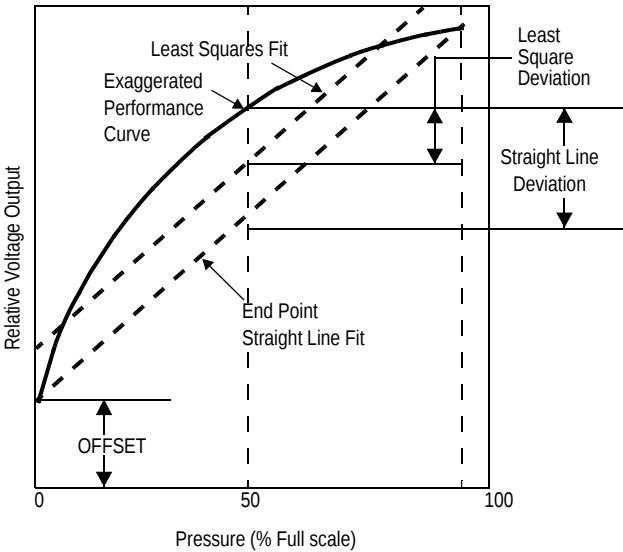

Figure 3. Linearity specification comparison
Linearity refers to how well a transducer's output follows the equation: $V_{OUT} = V_{OFF} + \text{sensitivity} \times P$ over the operating pressure range. There are two basic methods for calculating nonlinearity: (1) end point straight line fit (see Figure 3) or (2) a least squares best line fit. While a least squares fit gives the "best case" linearity error (lower numerical value), the calculations required are burdensome. Conversely, an end point fit will give the "worst case" error (often more desirable in error budget calculations) and the calculations are more straightforward for the user. The specified pressure sensor linearities are based on the end point straight line method measured at the midrange pressure.